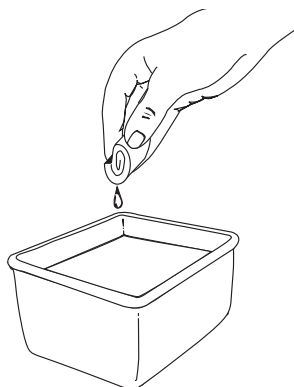

Fig. 45
3. Wash the filter in detergent and water (Fig. 45). Rinse the filter thoroughly and allow it to dry.